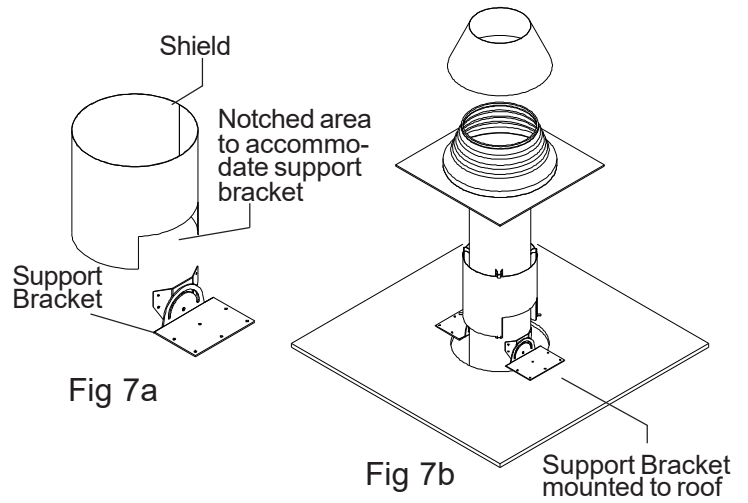

Fig 6
4. Slide the shield over the chimney and center it within the prepared roof opening* (Figure 6). Maintain a minimum of 1" of air space clearance between the Shield and any combustible frame members. This will provide the required 2" of air space clearance to the chimney.
6. After properly positioning the Shield, attach it to the framing using the Shield Mounting Brackets (item 3) oriented as shown in Figure 6. Attach each bracket to the roof using a nail (not provided) and to the shield using two sheet metal screws per bracket (Figure 6).